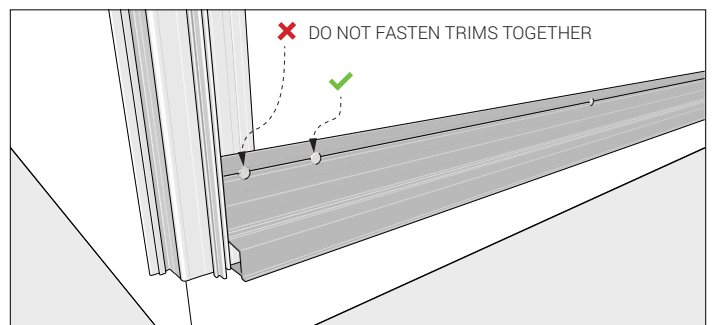

Figure 11.4
- Do not fasten two pieces of trim together (Figure 11.4).